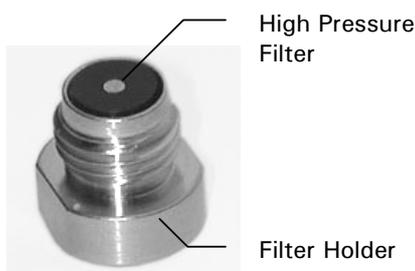

FIGURE 3-15. In-Line Filter in Filter Holder
- c) Remove the filter and place a new filter into the holder (FIGURE 3-15). Refer to the table to select the proper replacement filter.